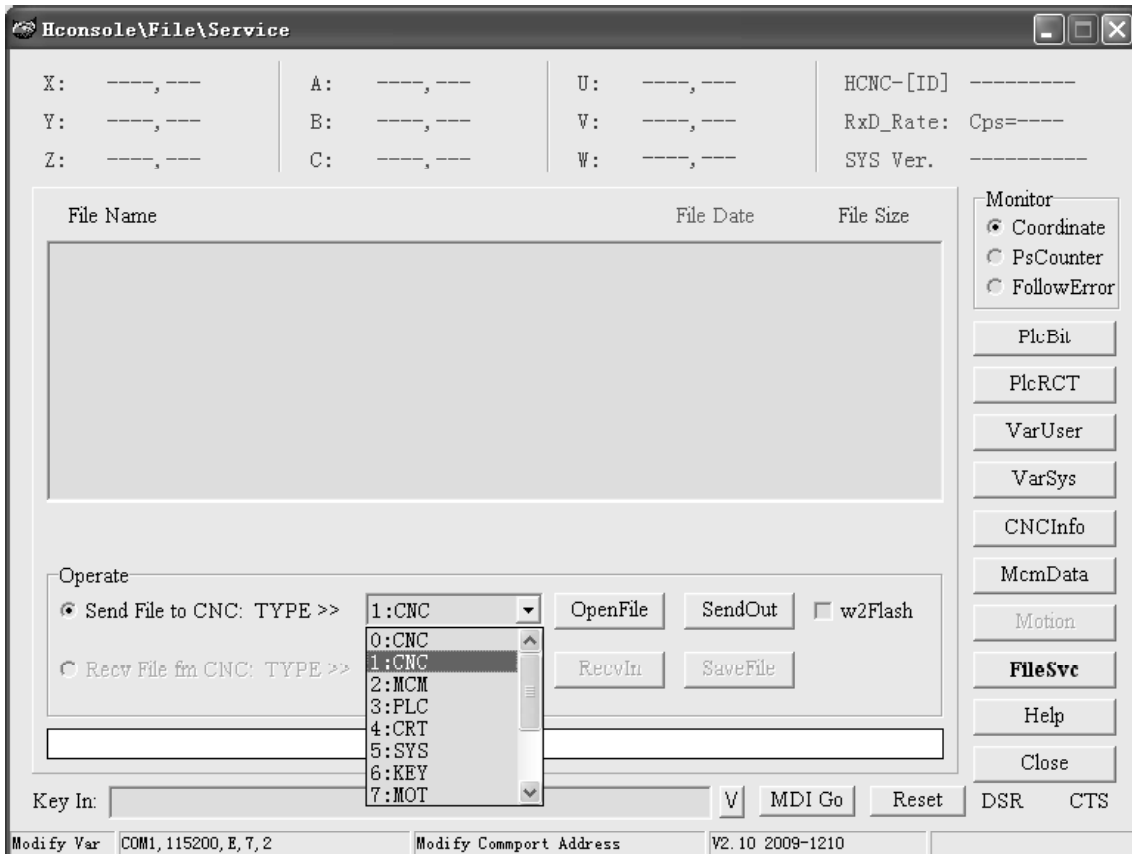

Fig 9-1
4. As depicted in Fig. 9-1, upon entering the G10 P600 L01 command in the entry area, press MDI Go to complete the burn movement.